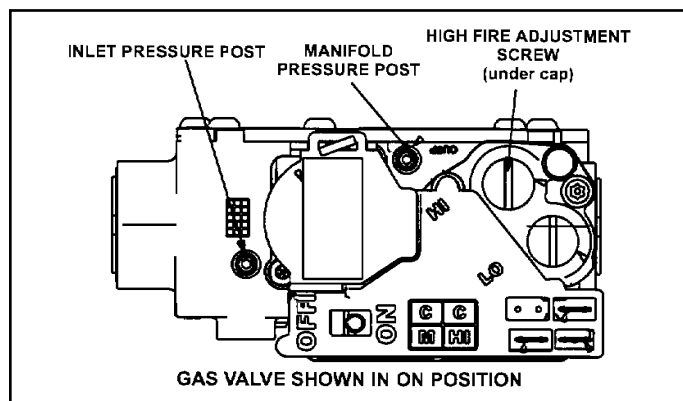

Figure 58. Gas Valve Shown in "ON" Position
6. Move gas valve switch to OFF. See Figure 58.
8. Move gas valve switch to ON. See Figure 58.
- A manifold post located on the gas valve provides access to the manifold pressure. See Figure 58. Back out the 3/32 Hex screw one turn, connect a piece of 5/16" tubing and connect to a manometer to measure manifold pressure.